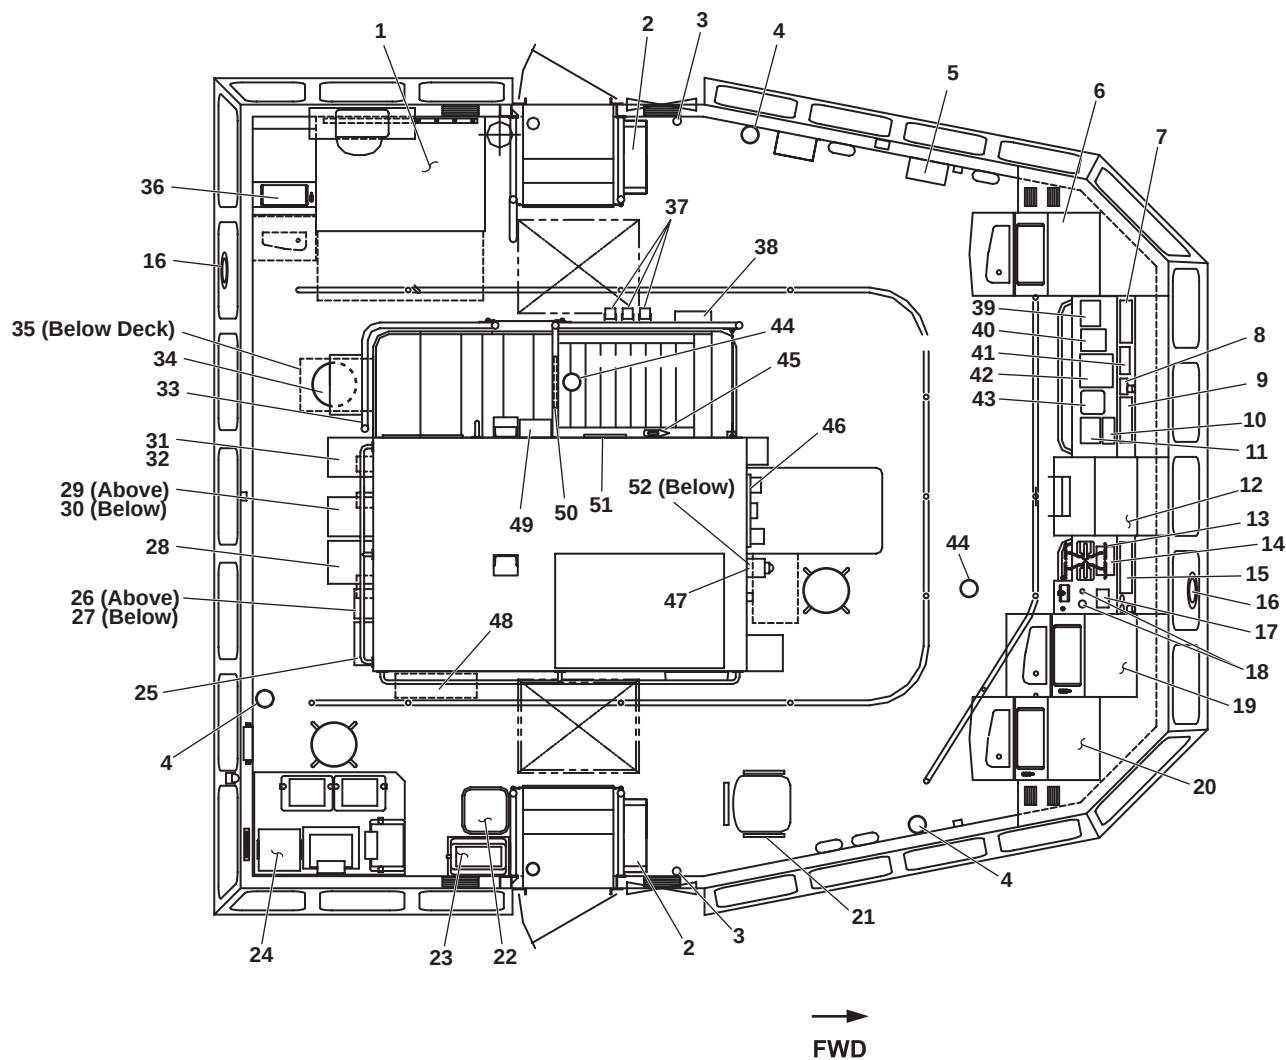

Figure 1. Pilothouse Interior (Plan View)
1. Chart table (figure 1, item 1). The chart table provides open working space for navigation charts.
2. Life preserver storage (figure 1, item 2). Storage is provided for four life preservers. Two are stowed on the port side and two on the starboard side.
3. Search And Rescue Transponder (SART) (figure 1, item 3). Two SARTs are provided, one for each life raft. The SART aids rescue personnel in locating the life rafts.
4. Fire extinguisher (figure 1, item 4). Three 10-pound dry chemical fire extinguishers are located in the pilothouse to permit extinguishing of small fires.
5. Door alarm switchboard (figure 1, item 5). The door alarm switchboard alerts pilothouse personnel to open door conditions for the radio room, arms locker, and main deck fan room. The door alarm switchboard also alerts the pilothouse personnel when the arms locker raw water drenching system has been activated.
6. X Band radar display (figure 1, item 6). The X band radar display is used for navigation.
7. Pilothouse port Heating, Ventilation, and Air Conditioning (HVAC)/fresh air panel (figure 1, item 7). The pilothouse HVAC/fresh air panel provides controls for the port side pilothouse rooftop air conditioning unit and for the pilothouse fresh air fans.
8. Engine Order Telegraph (EOT) power failure panel (figure 1, item 8). The EOT power failure panel notifies pilothouse personnel when an EOT power failure has occurred.
9. EOT transceiver (figure 1, item 9). The EOT transceiver transmits and receives engine order commands between the pilothouse and the EOS.
10. Deck/console lighting panel (figure 1, item 10). The deck/console lighting panel provides controls for deck and console lighting.
11. Starboard searchlight control station (figure 1, item 11). The starboard searchlight control station provides controls for the starboard searchlight.
12. Steering stand (figure 1, item 12). The steering stand provides helm controls for the vessel.
13. Port and starboard main engine throttles (figure 1, item 13). The port and starboard main engine throttles control the speed of the main engines and the direction of rotation of the propeller shafts.
14. Pilothouse starboard HVAC panel (figure 1, item 14). The pilothouse starboard HVAC panel provides controls for the starboard side pilothouse rooftop air conditioning unit.
15. Remote propulsion indicator panel (figure 1, item 15). The remote propulsion indicator panel provides instrumentation for the main engines and for the bow thruster.
16. Clearview screen (figure 1, item 16). Two clearview screens are provided to maximize pilothouse visibility in rain, snow, and sleet. One clearview screen is mounted forward, the other aft.
17. Bow thruster START/STOP controls (figure 1, item 17). The bow thruster START/STOP controls permit pilothouse personnel to START and STOP the bow thruster engine.
18. Bow thruster control (figure 1, item 18). The bow thruster control permits pilothouse personnel to control the speed and direction of the bow thruster.
19. Primary Electronic Chart Display and Information System (ECDIS) display (figure 1, item 19). The primary ECDIS display provides an interface between key navigation components permitting pilothouse personnel to perform trip planning and navigation tasks.
20. S Band radar display (figure 1, item 20). The S band radar display is used for navigation.
21. Navigator's chair (figure 1, item 21). The navigator's chair provides seating for the navigator.
22. Drinking fountain (figure 1, item 22). The drinking fountain provides chilled potable water for personal consumption by pilothouse personnel.
23. Coffee maker (figure 1, item 23). The coffee maker brews coffee and maintains the brewed coffee at an acceptable temperature.